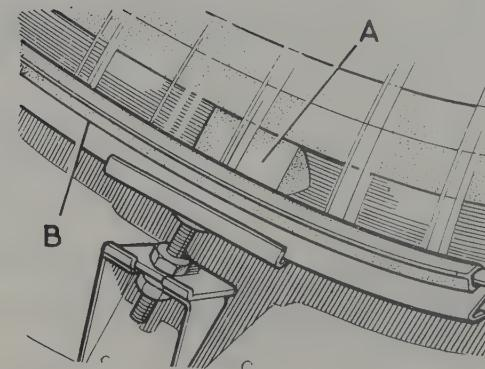

Fig. 12.48. Windscreen spacer blocks (A), support channel (B)
- 14 Refer to Fig.12.48 and fit the neoprene blocks "A" between the bodyshell and windscreens support channel at each jacking point so as to maintain the correct clearance between the windscreens glass and bodyshell.